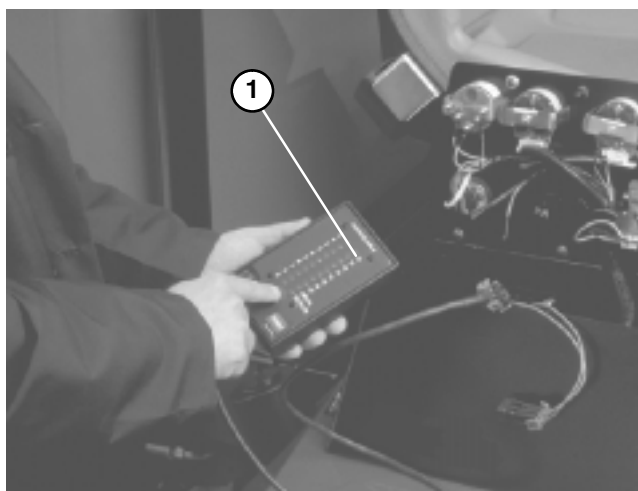

Figure 31
3. Connect the Diagnostic ACE display connector to the harness connector (Fig. 31). Make sure correct overlay decal is positioned on Diagnostic ACE display.